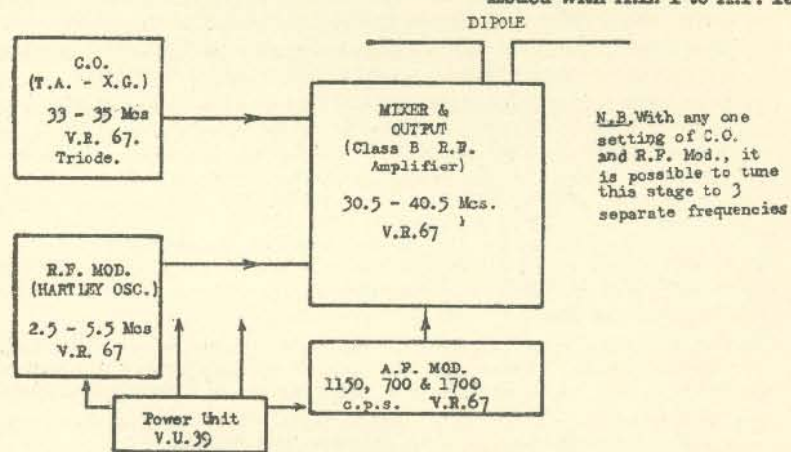

FIG. 88B.—Block diagram test oscillator, Type 12.
11. **Test Oscillator, Type 12** (fig. 88B).—Uses same principle as marker transmitter. Has C.O., R.F. mod., mixer-output and A.F. modulator stages, all triodes.